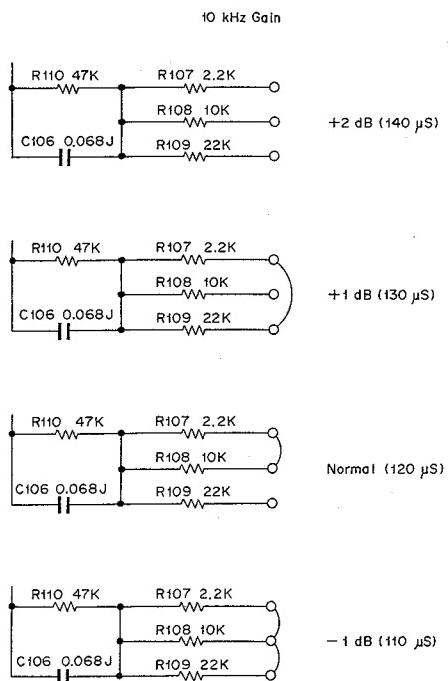
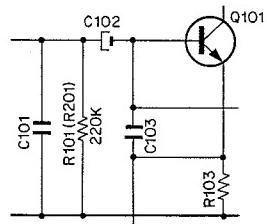

Fig. 6.20 Playback Equalizer Adjustment
Fig. 6.21 PB Head Amp. Peaking Compensation
- (1) Open 22 k Ω of R109,209 of the PB Head Amp. P.C.B. (EQ and time constant shall show 120 μ s).
- (2) Load a 400 Hz Level Tape (DA09005A) to playback, and turn the output level controls till the indication of the VTVM shows 0 dB (for example) or easy reference of value.
- (3) Load a 10 kHz PB Frequency Response Tape (DA09003A) and play it back.
- (4) Check the output of 10 kHz and then, referring to Fig. 6.20, adjust EQ in the range of $110 \mu\text{s} - 140 \mu\text{s}$, the result of which shall be 0 to $\pm 3 \text{ dB}$.
- (5) Load a 15 kHz PB Frequency Response Tape (DA09002A) and play it back.
- (6) If the output of 15 kHz shows the value within $\pm 2 \text{ dB}$ against 400 Hz Level Tape, it is considered satisfactory.
- (7) Load a 20 kHz PB Frequency Response Tape (DA09001A) and play it back.
- (8) If 15 kHz at (5) shows the value within $\pm 2 \text{ dB}$ and 20 kHz being less than -3 dB , replace the playback head.
- (9) Adjustment shall be made so that the level at 10 kHz, 15 kHz and 20 kHz will become flat when compared with 400 Hz.
- (10) If the results are shown to belong to high, set R101,201 to open – $100 \text{k}\Omega$. Refer to Fig. 6.21.
- (11) Adjust the azimuth alignment to the maximum output with a 15 kHz Azimuth Tape (DA09004A).